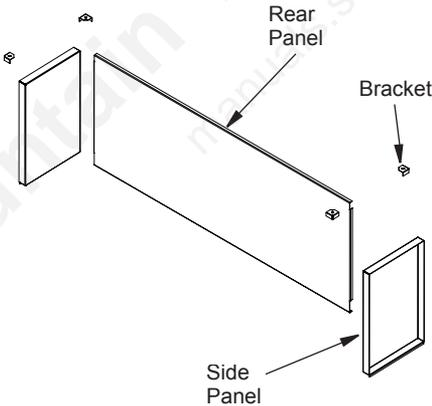

Figure 21 - Removing Rear Interior Wall for See-Thru Applications
1. Through firebox opening in the front of the fireplace, unscrew 4 corner brackets from the firebox top (See Figure 21).